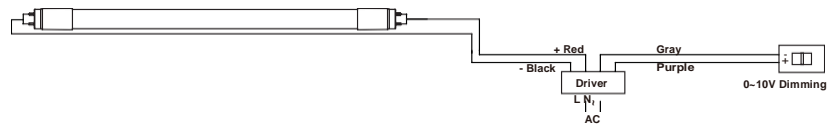

Figure 3a
Step 7: For single-ended wiring, please see **Figure 3a, 3b, 3c or 3d**.